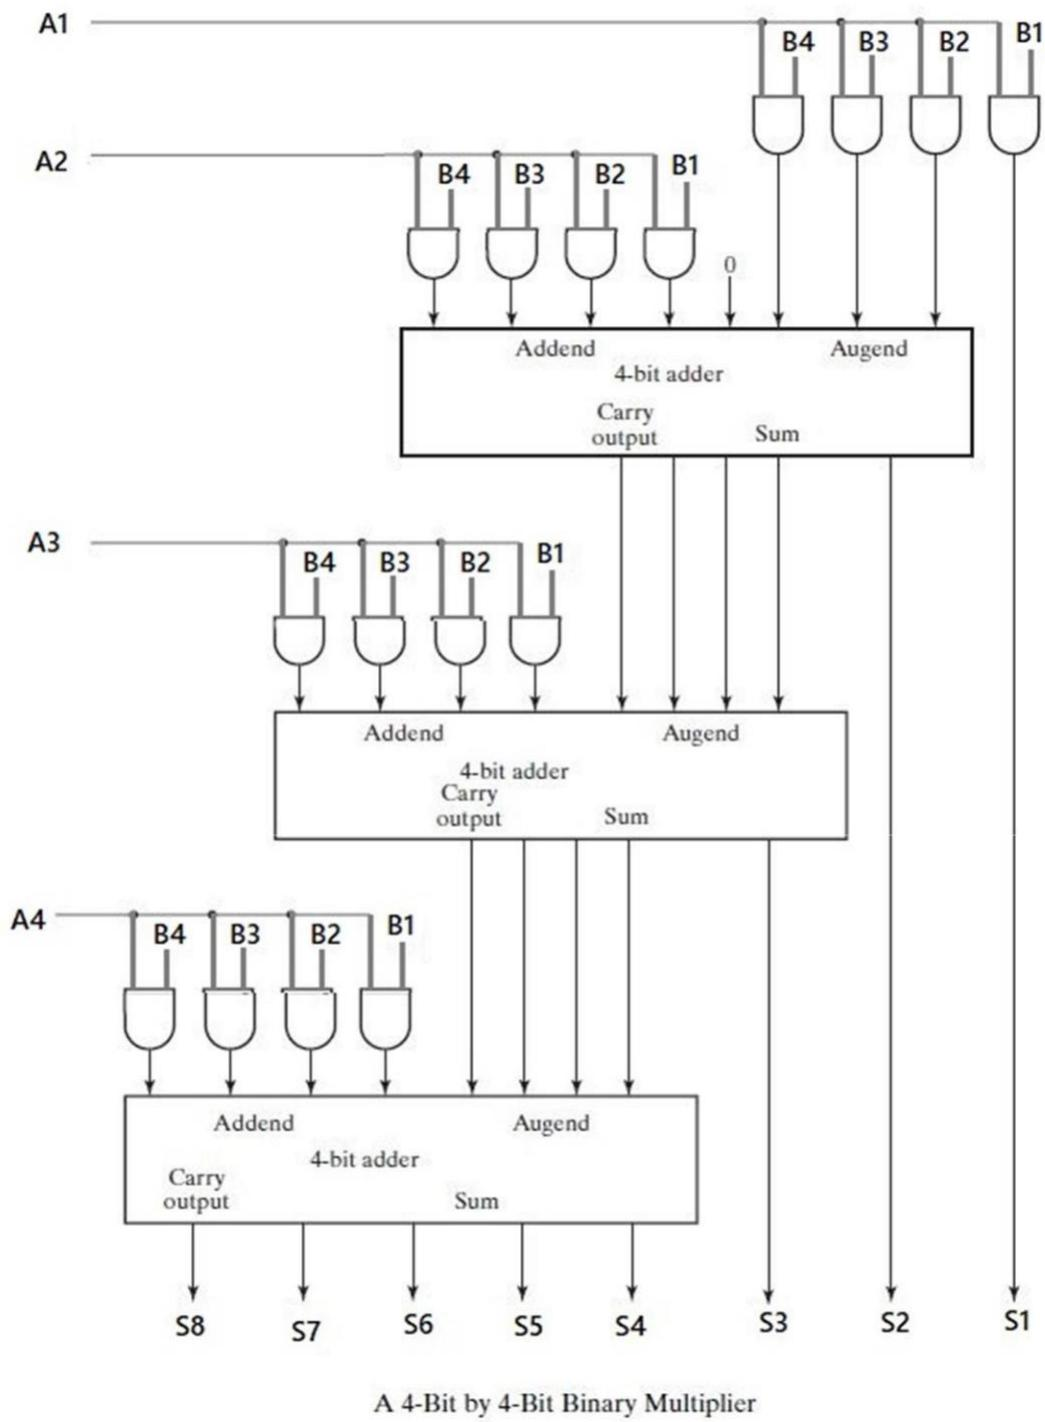

Fig:1
3. Simulate the Entire circuit in Logisim showing the pin configurations and values properly (**Figure 1**).